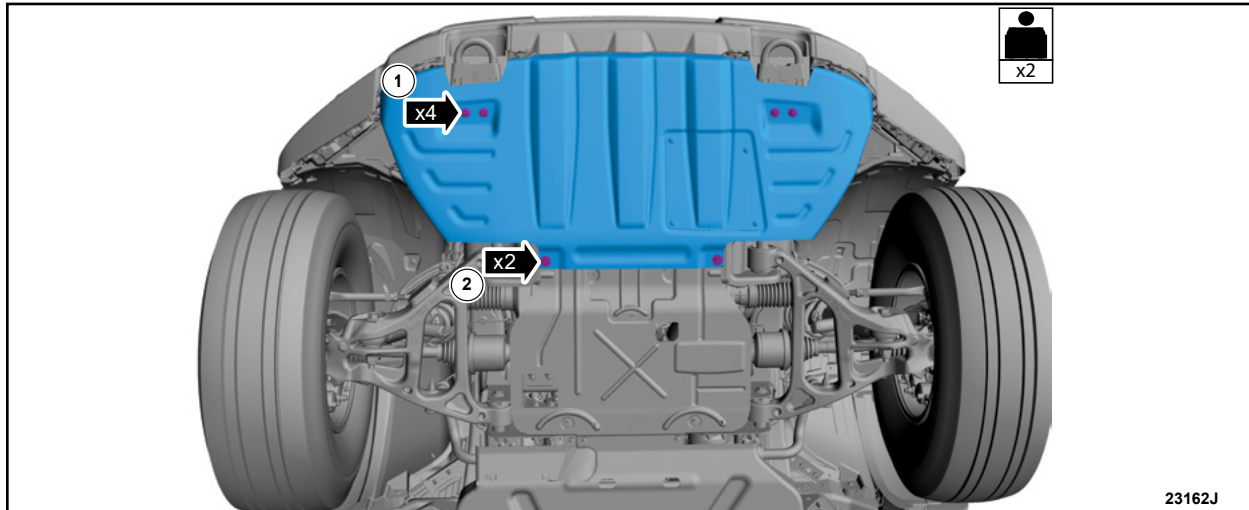

FIGURE 10
1. Remove the bolts and the engine front undershield. See Figure 10.